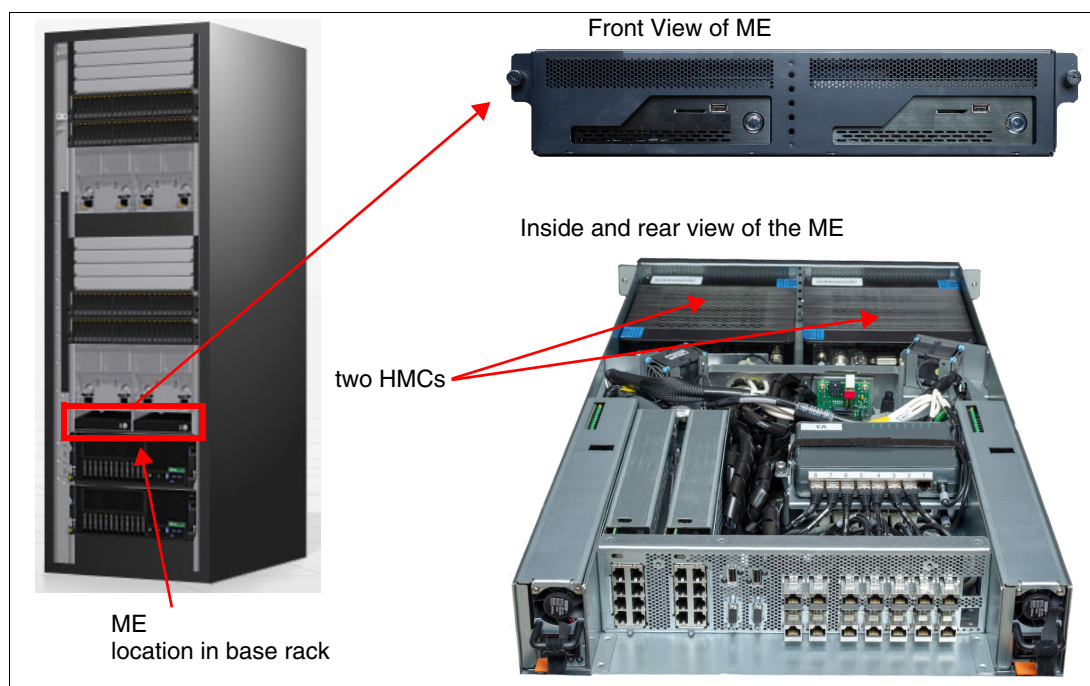

Figure 6-1 Management Enclosure
Figure 6-1 shows a ME.
**Note:** The location of the ME can be slightly different from what is shown in Figure 6-1 because there are many rack configurations, such as IBM DS8980F model 998, IBM DS8950F model 996, IBM DS8910F model 994, and IBM DS8910F Rack-Mounted model 993 that can fit into an existing 19-inch form-factor rack. On racked DS8900F systems, the ME is always in the base frame (Rack 1).